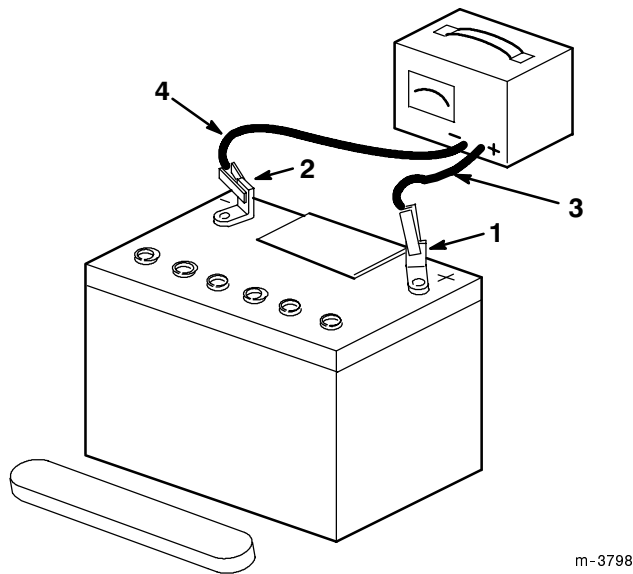

Figure 11
3. Leave the cell cover off and connect a 3-4 amp battery charger to the battery posts (Fig. 11). Charge the battery at a rate of 4 amperes or less for 4 hours (12 volts).
4. When the battery is fully charged, unplug the charger from electrical outlet, then disconnect the charger leads from the battery posts (Fig. 11).